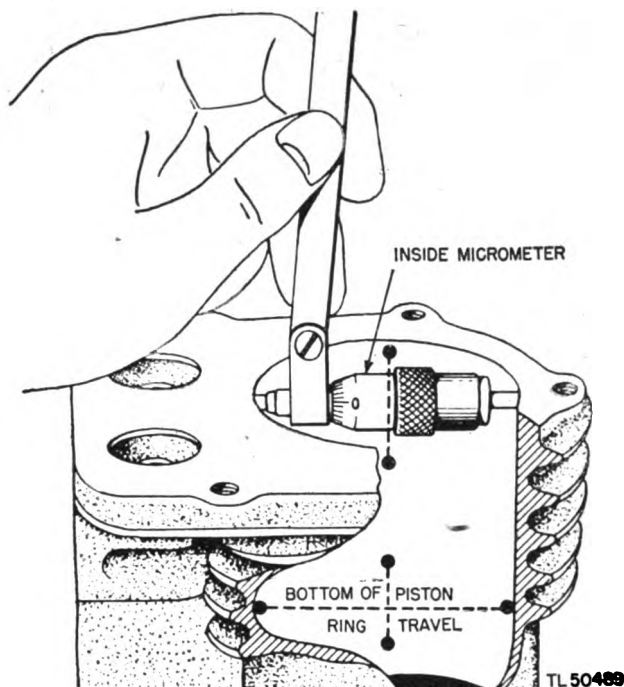

Figure 67. Checking cylinder bore.
(4) *Checking cylinder.* (a) Frequently cylinders which appear scored are merely out-of-round or oversize. In such cases, use an inside micrometer to determine the condition by taking several readings (fig. 67) from the top to the bottom of the space in which the piston operates. If the bore readings at the two ends